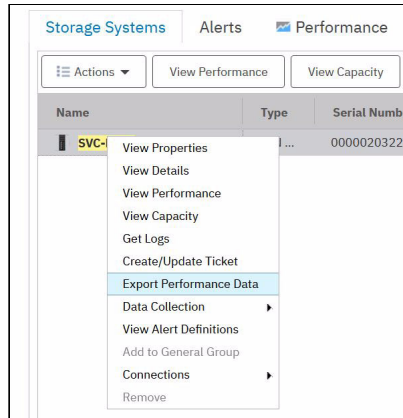

Figure 9-86 Selecting Export Performance Data
2. Right-click the storage system and select **Export Performance Data** (see Figure 9-86 on page 632).